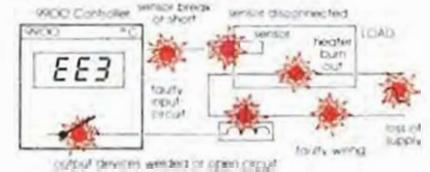

Fig 3 Typical faults detected by LBA
7.3 LBA – Loop break alarm see Fig. 3